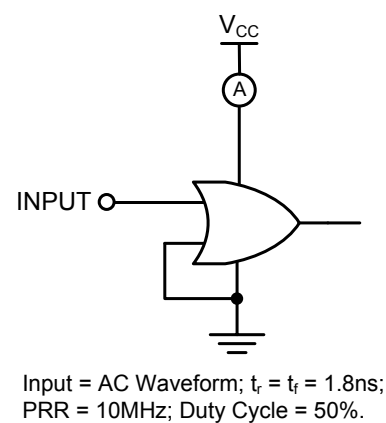

Figure 3. I_{CCD} Test Circuit
2. C_{PD} is defined as the value of the internal equivalent capacitance which is derived from dynamic operating current consumption (I_{CCD}) at no output loading and operating at 50% duty cycle (see Figure 3). C_{PD} is related to dynamic operating current I_{CCD} by the expression: I_{CCD} = (C_{PD}) (V_{CC}) (f_{IN}) + (I_{CC,Static}).